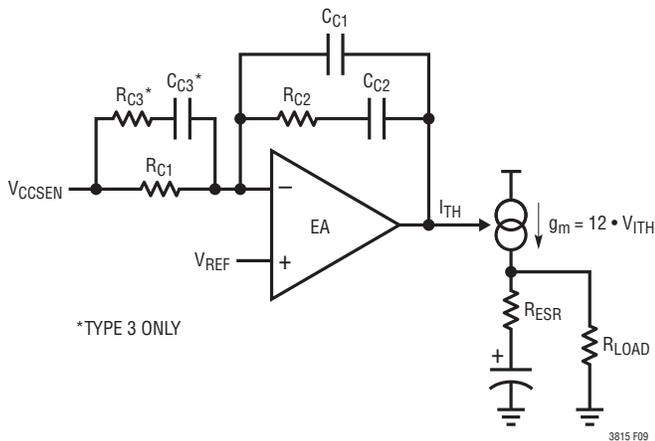

Figure 9. PSPICE Model of a LTC3815 Current Mode Regulator
very different than the one specified in the application circuits or if a Type 3 compensation network is required. A Type 3 compensation network includes the additional components  $R_{C3}$  and  $C_{C3}$  shown in Figure 9.
- 2) Plot Gain and Phase of the modulator and output filter. The modulator and output filter is the portion of the loop from the error amp output ( $I_{TH}$ ) to the regulator output ( $V_{OUT}$ ). To do this, insert a  $10\Omega$  to  $50\Omega$  resistor between the output capacitor and the  $V_{CCSEN}$  pin (this is R7 on the DC2065 demo board). Then use a network analyzer to inject an AC signal across this resistor and plot the Gain and Phase. If a network analyzer is not available, a close approximation can be obtained with a PSPICE simulator using the LTC3815 power supply model shown in Figure 9. The error amplifier EA can